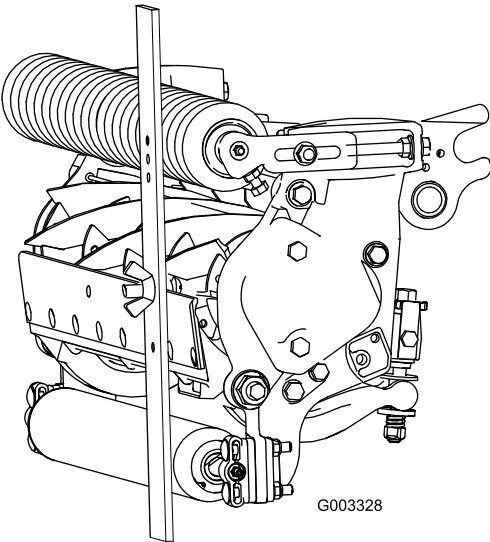

Figure 20
- 3. Hook the screw head on the cutting edge of the bedknife and rest the rear end of the bar on the rear roller (Figure 20).
- 4. Rotate the adjusting screw until the front roller contacts the gauge bar (Figure 20). Adjust both ends of the roller until the entire roller is parallel to the bedknife.